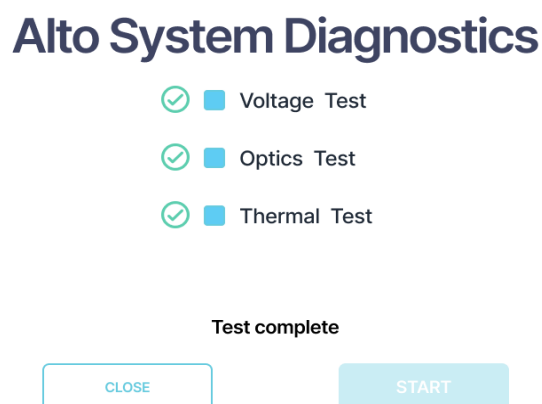

Figure 5.18: Success criteria for Alto system diagnostics.
5. Once the test is complete and successful, the screen in Figure 5.18 is shown. The green checkmarks in front of each selected test indicate that the instrument is good to proceed with the kinetics cartridge for the performance qualification test (if this is the first time using the instrument) or with the cartridge selected for your experiment.